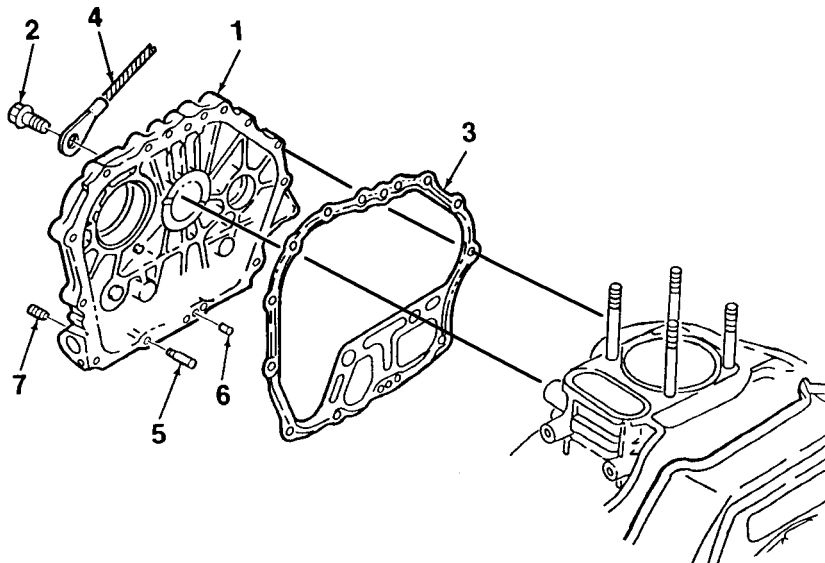

Figure 4-3. Crankcase Cover Removal
1. Note attachment location of engine lifting cable (4, Figure 4-3). Release crankcase cover (1) and lifting cable from cylinder block by removing fifteen screws (2). Carefully pry crankcase cover from cylinder block.
2. Remove cover gasket (3). Discard gasket if damaged or deformed. Remove pipe (5), two guide pins (6), and threaded plug (7) only if replacement is required.